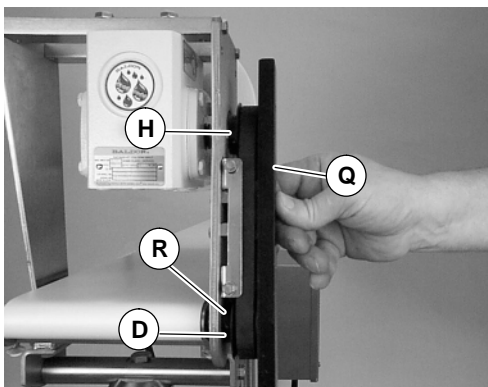

Figure 7
- Using a straight edge (Q of Figure 7), align driven pulley (D) with drive pulley (H). Tighten driven pulley set screws (R).